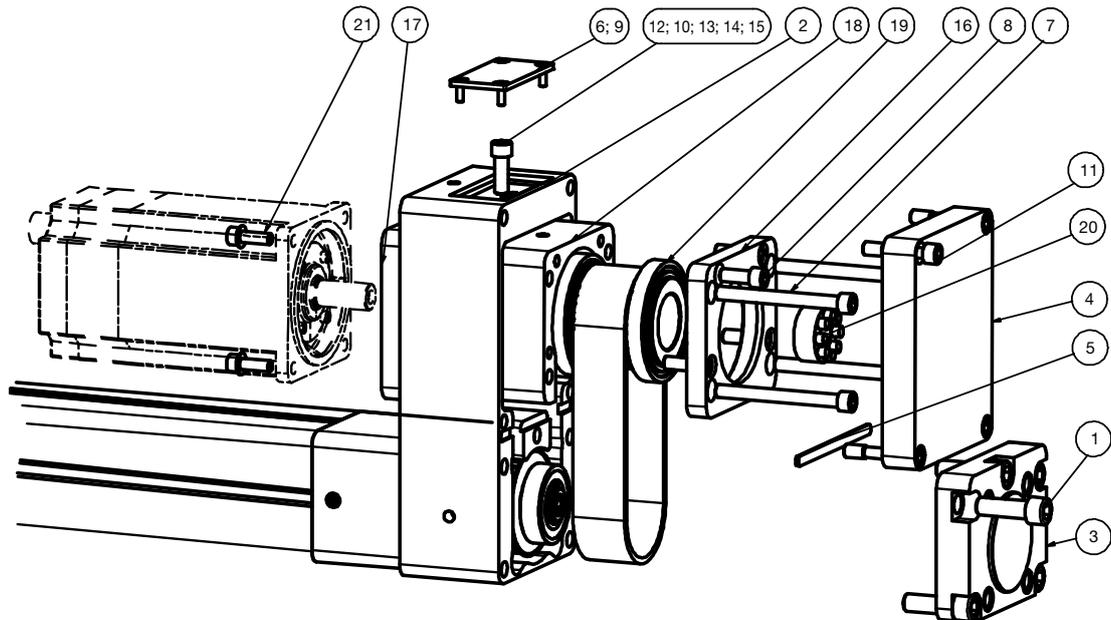

Figure 3 Exchanging the toothed belt (ETH100&125)
- ◆ Slightly loosen 4 screws ((Figure 3 Pos.7) by 1 or 2 turns.
- ◆ Loosen central toothed belt tensioning screw (Figure 3 Pos.12). The drive unit must lower slightly when the tensioning screw is loosened.
- ◆ Loosen tightening screw (Figure 3 Pos.12) until the drive unit is not lowered any further.
- ◆ Loosen 5 screws (Figure 3 Pos.1) and remove lid (Figure 3 Pos.3). If the lid cannot be removed easily, try to remove it with a slightly pivoting movement.
- ◆ Remove middle bar (Figure 3 Pos.5) with seal.
- ◆ Loosen 4 screws (Figure 3 Pos.8) of the upper bearing flange (Figure 3 Pos.16) (don't remove them completely).
- ◆ Loosen 4 screws (Figure 3 Pos.7) and remove motor flange (Figure 3 Pos.17).
- ◆ Loosen and remove completely central toothed belt tensioning screw (Figure 3 Pos.12)
- ◆ **ATTENTION!** Secure upper bearing unit (Figure 3 Pos.18) against falling.
- ◆ Remove upper bearing unit (Figure 3 Pos.18) with toothed belt.
- ◆ Loosen four screws (Figure 3 Pos.8) of the upper bearing flange (Figure 3 Pos.16) and remove bearing flange from bearing (Figure 3 Pos.19).
- ◆ Remove hollow shaft with the two bearings (Figure 3 Pos.19) from the bearing housing (Figure 3 Pos.18).
- ◆ (Figure 3 Pos.2,3 and 4) must be sealed with Atomsit.
- ◆ Re-seal middle bar (Figure 3 Pos.5) with the seal or with Atomsit.